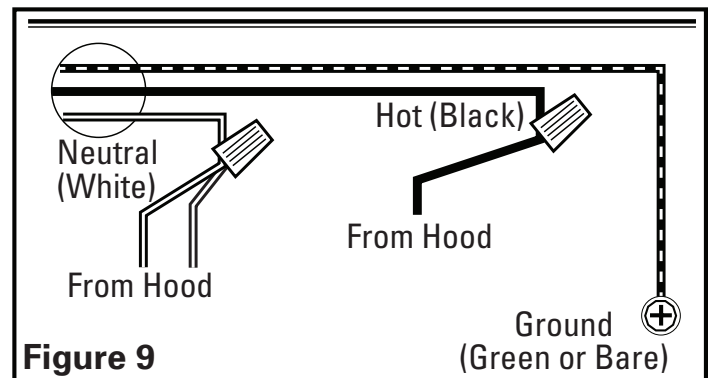

Figure 9
1. Connect the two loose White wire from the range hood to the White wire from the supply, and the loose Black wire from the range hood to the Black wire of the supply. Connect the ground wire (green or bare) from the supply to the green ground screw of the hood. Use approved methods for all connections (**Figure 9**).